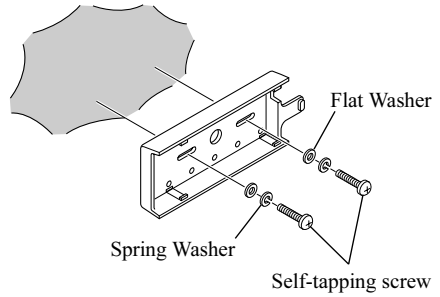

Figure 4
6. Referring to Figures 4 and 5, mount the Front Panel Nest in the desired location..